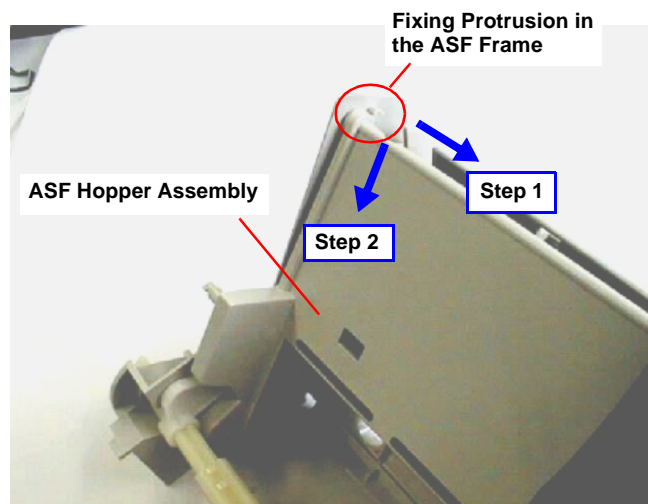

Figure 4-35. Releasing the Hopper Assembly
- 6) Release the Hopper Assembly fixing hooks from the protrusion at the top left corner of the ASF Frame by following the step in Figure 4-35.